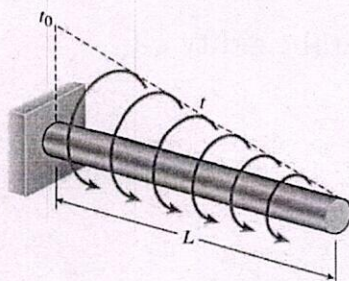

Figure 2
**Q.4** Derive a formula for the strain energy  $U$  of a cantilever bar (see Figure 2). The bar has circular cross sections and length  $L$ . It is subjected to a distributed torque of intensity  $t$  per unit distance. The intensity varies linearly from  $t=0$  at the free end to a maximum value  $t = t_0$  at the support.